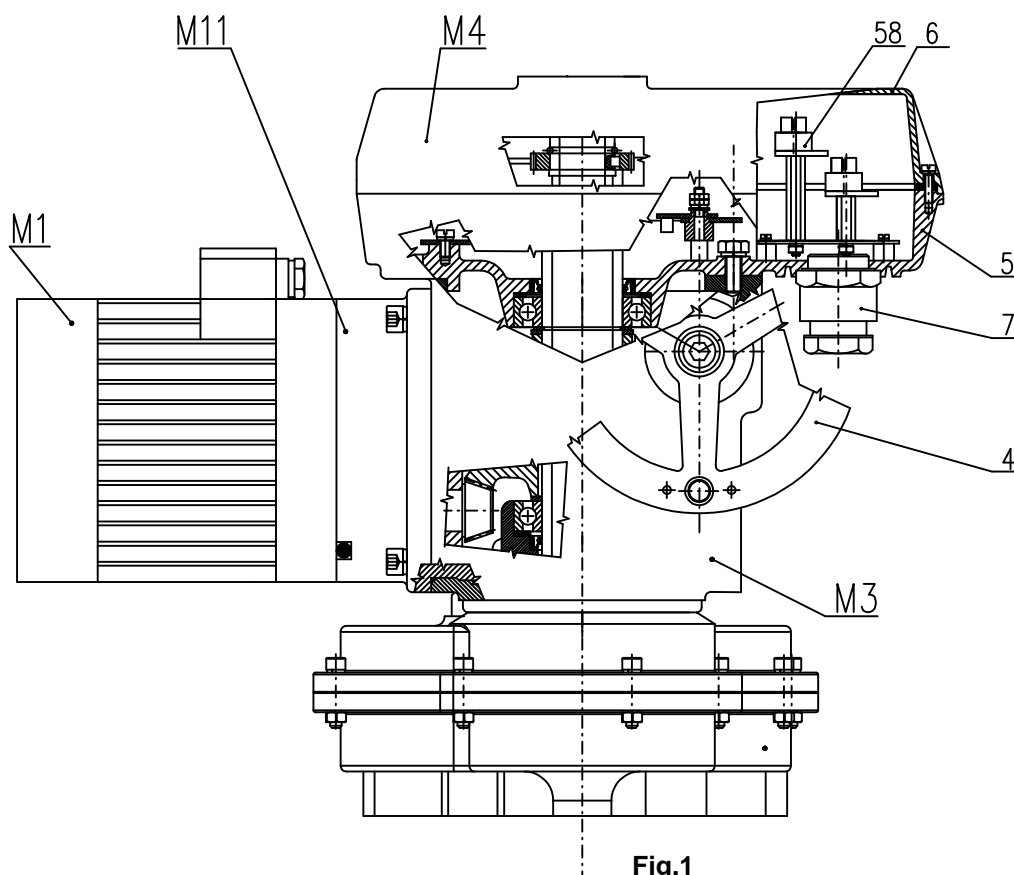

Fig.1
- Electric actuators must be placed with access to the manual control wheel (4) (Fig.1), to the cover of control box (6), to control box (M4), to bushings (7).
Electric multi-turn actuators **MO 4** consist of these modules (Fig.1):
Module M 4 – control box (Fig. 1)
- position unit (11)
- signalling unit with gear unit (12)
- torque unit (9)
- transmitter unit (33) (according to EA specification)
- heating resistor (16) with thermal switch (15)
- controller (only for EA **MO 4** with controller) (14)
- reversing contactors (13) (according to EA specification)
- electrical connections by means of terminals (58) situated within terminal box , and cable bushings (7) (Fig.1), or connector with cable bushings